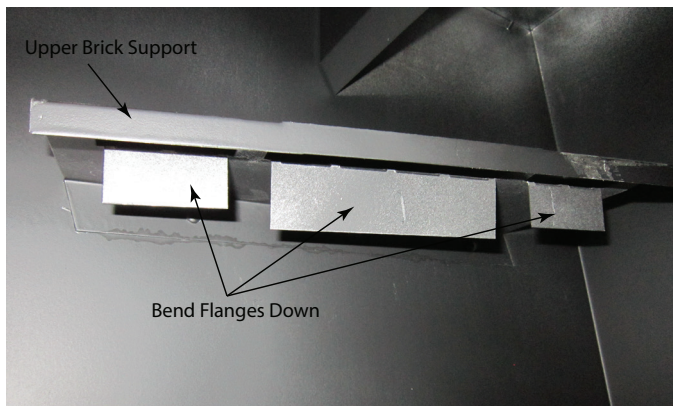

Figure 8.1 Bend Flanges
- Bend flanges down on upper brick support. See Figure 8.1.